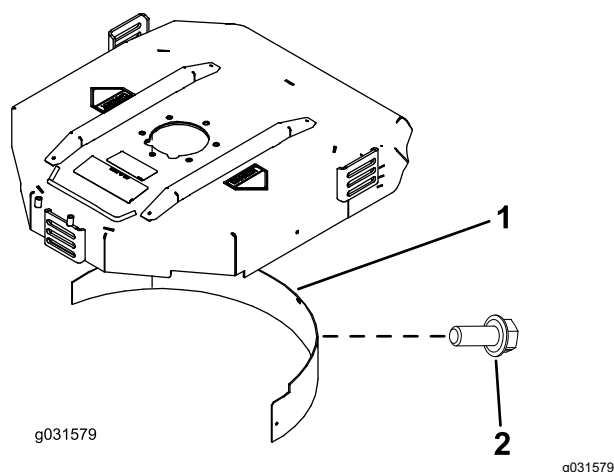

Figure 9
- Install the mulching baffle in the rear opening and secure it with 5 flange-head bolts (Figure 9).